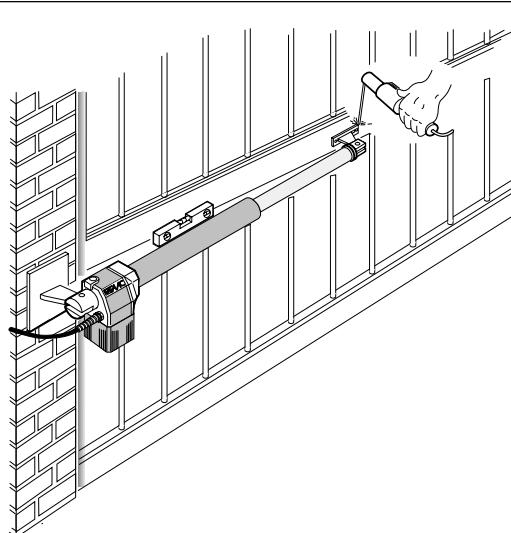

Fig. 7
- 8) Close the gate leaf and, keeping the operator perfectly horizontal, locate the leaf attachment position of the front bracket (fig. 7).